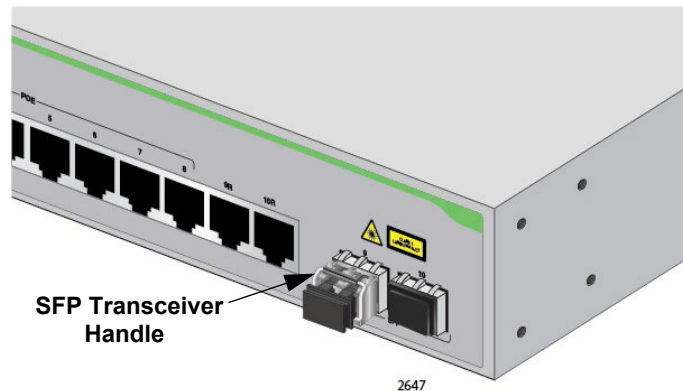

Figure 28. Positioning the SFP Handle in the Upright Position
5. Verify that the handle on the transceiver is in the upright position, as shown in Figure 28. This secures the transceiver and prevents it from being dislodged from the slot.